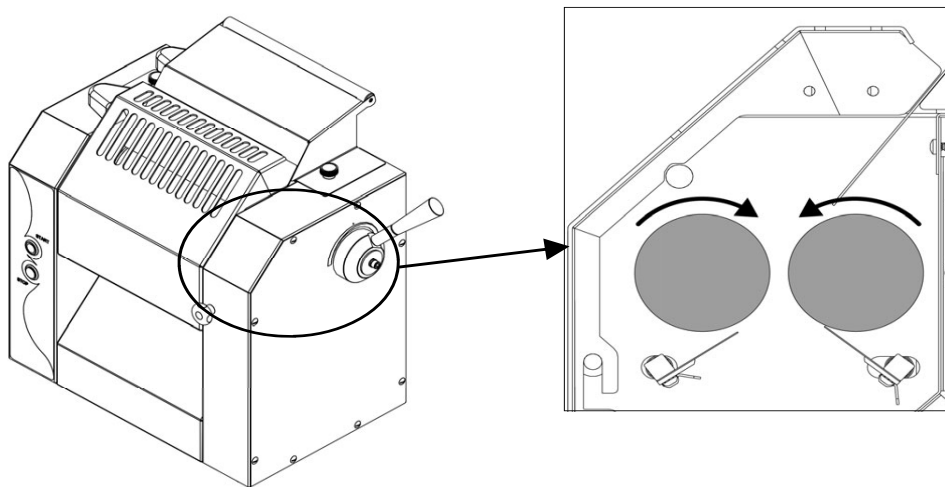

FIG. no. 8
4. **CAUTION!** if the machine is configured for three-phase power, check that the sense of rotation of the rollers is the right one (see FIG. no. 8); if it is not, invert the two phases of the power plug.
1. **CAUTION!!** With three-phase powered machines, make sure that the sense of rotation of the rollers is the right one (see FIG. no. 8); if it is not, invert the order of the two phases on the plug.
### 5.3 - ROLLER ROTATION (see FIG. no. 8)